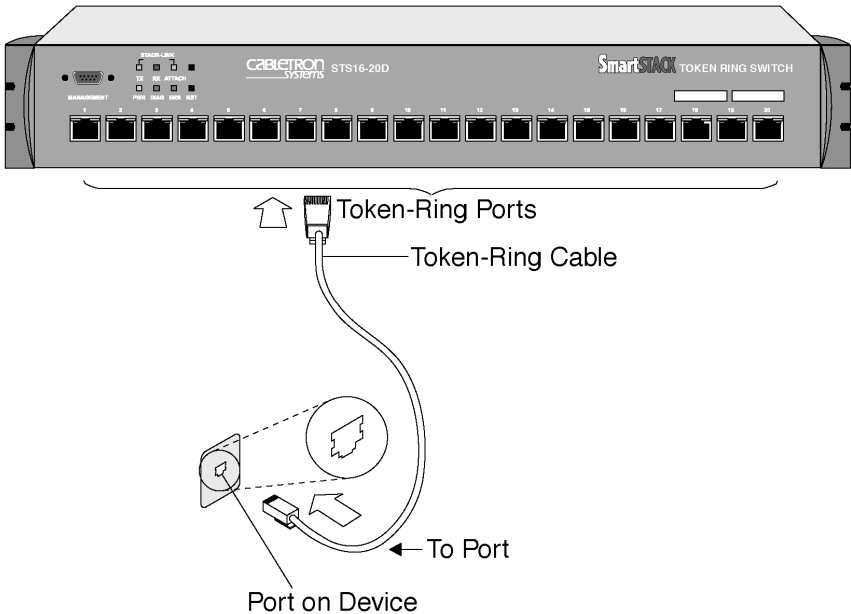

Figure 19. Connecting Devices to Token Ring Ports
1. Using the SmartStack STS16-20D/STS16-20R Cabling Chart provided by your network administrator as a guide, connect the cables between the switch and other devices as illustrated in Figure 19. Note that the figure illustrates an RJ-45 connector on each end. Depending on the cable type you use, the device end of the cable may also have a 9-pin D-shell or 150 ohm Data Connector.